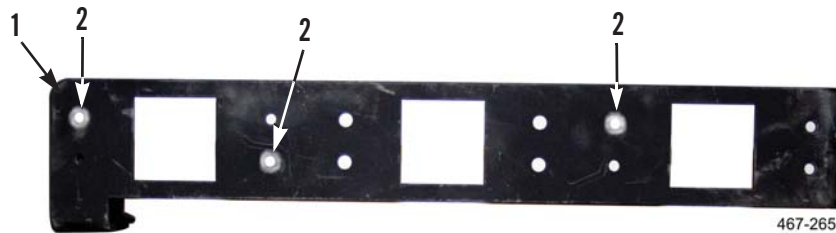

Figure 57. Grind Paint from Grounding Holes.
3. On both sides of bracket (Figure 57, Item 1) scrape or grind away paint surrounding ground mounting holes (Figure 57, Item 2).